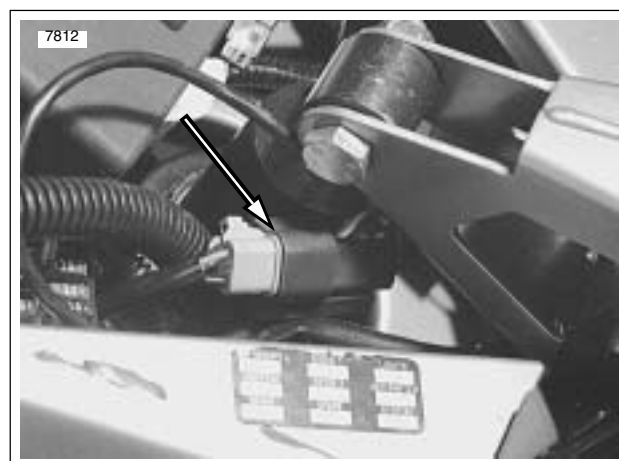

Figure 7-86. Speedometer Sensor Connector [65]
1. See Figure 7-86. Locate the 3-place Deutsch connector [65] for the speedometer sensor to right of battery and disconnect.
1. See Figure 7-86. Disconnect speedometer sensor connector. Attach speedometer tester connector to speedometer sensor connector.